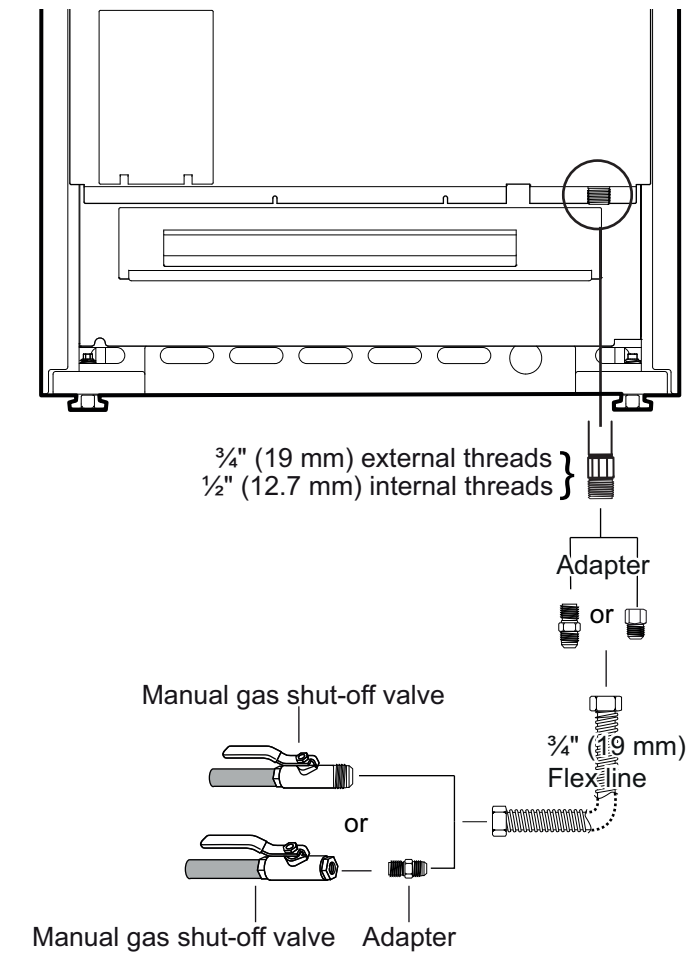

Figure 8: Gas Supply Connection
2. Use a ¾" (19 mm) flex line to connect between the gas supply and the appliance gas inlet. The gas supply line connection is located at the lower right portion of all range models (see *Figure 8*). The appliance gas inlet connection is ½" (12.7 mm) NPT.